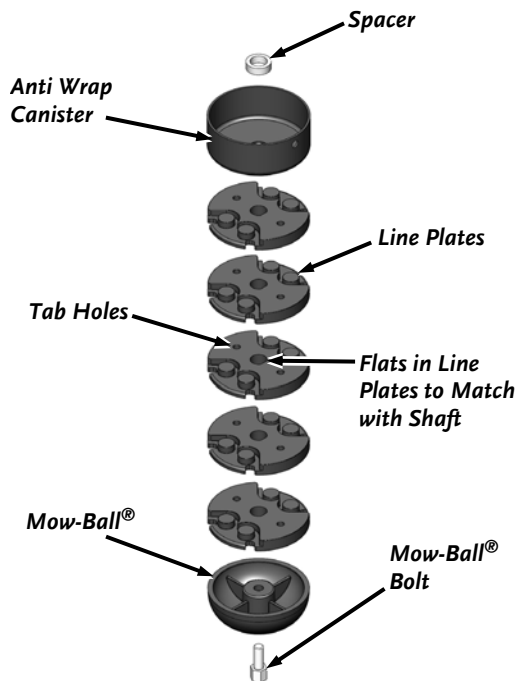

Figure 25
- Slide the Line Plates, Anti Wrap Canister and Spacer off the Shaft (**Figure 25**).
Improper installation can cause damage to the trimmer bearings. Follow these directions carefully to protect your machine from damage. Reassemble the components in the order shown in **figure 25**.
- Place the Spacer and Anti Wrap Canister (with the lip facing up) onto the Shaft (**Figure 25**).
The Belt must be installed on the inside of the guide Pin as shown in figure 25. If it is not installed on the inside the Trimmer Head will not function correctly.